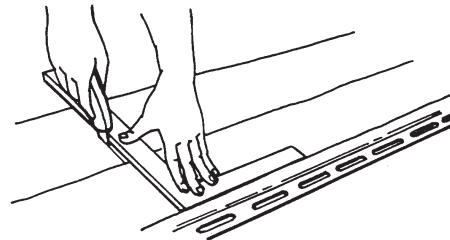

Figure 21.
- With a utility knife or scoring tool, score the vinyl face up with medium pressure and snap it in half. It is not necessary to cut all the way through the vinyl (Fig. 21).